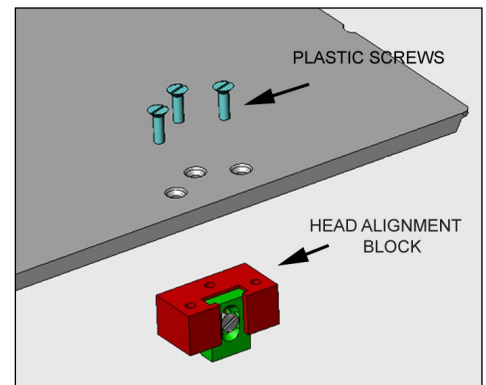

Fig. 40
1. Install Head Alignment Block on the CT Overlay (IF NOT ALREADY INSTALLED) using 3 Plastic  $\frac{3}{8}$ -12 x 1.25" Flat Head Screws provided. You can use a Quarter or a Flat Head Screwdriver to loosen or tighten screws (Fig. 40).